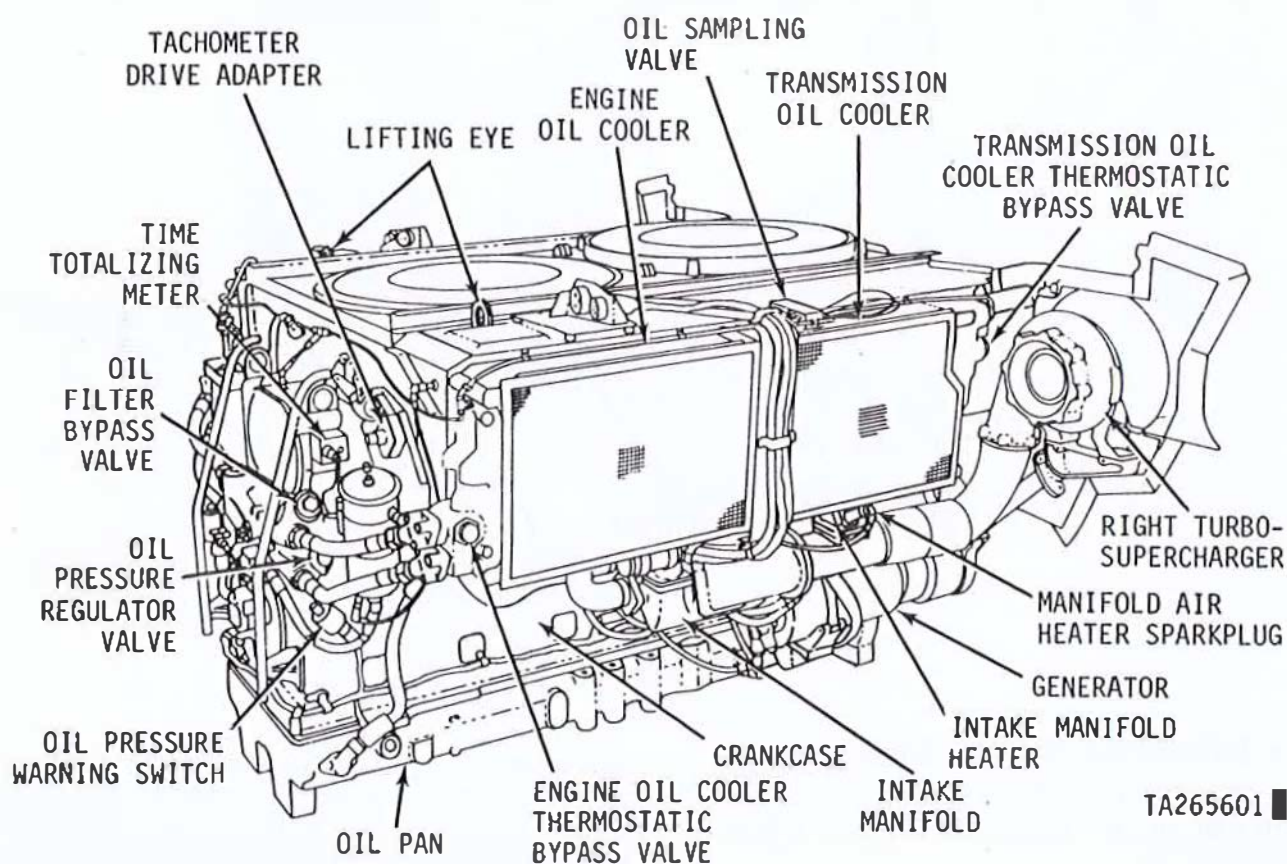
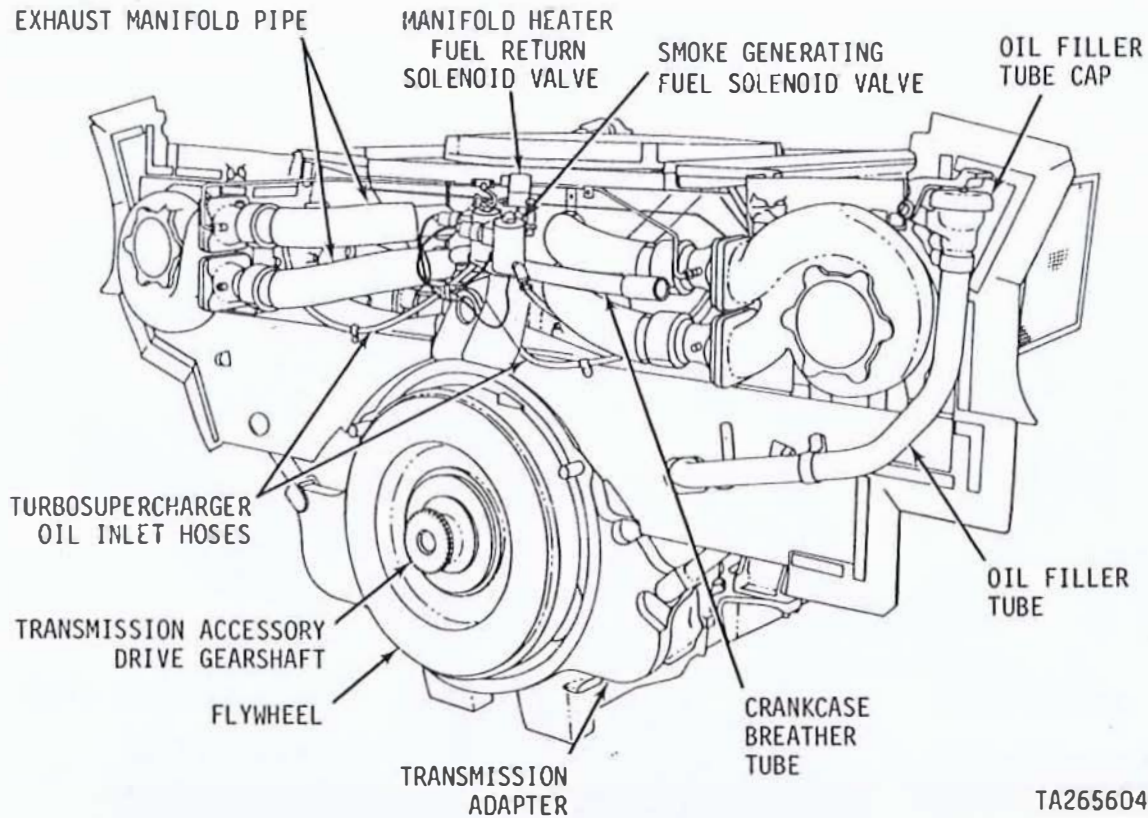

Figure 1-1. AVDS-1790-2C engine assembly — right front view.
Figure 1-4. AVDS-1790-2C and AVDS-1790-2D engine assembly - rear view.
a. This technical manual contains instructions for Direct Support and General Support of the 12-cylinder, Model AVDS-1790-2C engine (figs. 1-1 through 1-4), Model AVDS-1790-2D engine (figs. 1-4 through 1-7), Model AVDS-1790-2DR engine (figs. 1-7.1 through 1-7.4), Model AVDS-1790-2CA (figs. 1-7.5 through 1-7.7) and Model AVDS-1790-2DA (figs. 1-7.7 through 1-7.9). Included are descriptions of and procedures
a. The Model AVDS-1790-2C engine is equipped with a 28 volt, 650 ampere, oil cooled dc generator (fig. 1-1).
a. The engine Models AVDS-1790-2C (figs. 1-1 through 1-4), AVDS-1790-2D (figs. 1-4 through 1-7), AVDS-1790-2DR (figs. 1-7.1 through 1-7.4), AVDS-1790-2CA (figs. 1-7.5 through 1-7.7) and AVDS-1790-2DA (figs. 1-7.7 through 1-7.9) are 12-cylinder, 90 degree, V-type, 4 cycle, air cooled turbosupercharged diesel engines. The cylinder assemblies are individually replaceable units with overhead valves and valve rocker assemblies in the head. The cylinders are arranged in two banks of six cylinders each. Each bank of cylinders has an overhead camshaft arrangement to actuate the valves of each cylinder.
b. The engine features a fuel injection system and a turbosupercharged air induction system which obtains optimum engine performance. The fuel injection system has a fuel injection metering pump which supplies metered fuel to individual cylinders through fuel injector nozzles. The fuel supply pump assembly (fig. 1-3) located at the front of the engine draws fuel through the primary and secondary fuel systems from the vehicle fuel tanks and delivers it to the injection pump. A turbosupercharger assembly (figs. 1-1 and 1-2) is located on each side of the engine at the rear. The turbosuperchargers are exhaust-gas driven and increase the air flow pressure entering the air intake manifolds (figs. 1-1 and 1-2).
c. The Model AVDS-1790-2C and Model AVDS-1790-2CA engines are equipped with a 28-volt oil cooled dc generator (fig. 1-1) capable of 650 ampere output over the engine operating range. The generator produces an alternating current which is rectified within the unit to give a direct current to the output terminals.
g. The engines are equipped with two intake manifold heaters (figs. 1-1 and 1-2) which are installed in the air intake systems between the intake manifold elbows and the turbosuperchargers. The heaters, when operated, preheat the air entering the cylinders to facilitate cold weather starting and cold weather idle operation.
h. The engine crankcase is vented by an enclosed crankcase breather system which is vented through the crankcase breather tube (fig. 1-4) at the left turbosupercharger exhaust pipe.
The crankcase (fig. 1-1) is a one-piece aluminum casting with forged aluminum main bearing caps. The bearing caps function as an integral part of the crankcase. Each cap is secured on studs with four slotted nuts. Two through bolts clamp the main bearing cap in the tunnel slot of the crankcase. With this type of crankcase and bearing cap construction, uniform load distribution in the bearing area is obtained making possible uniform distribution of combustion forces over the entire crankcase.